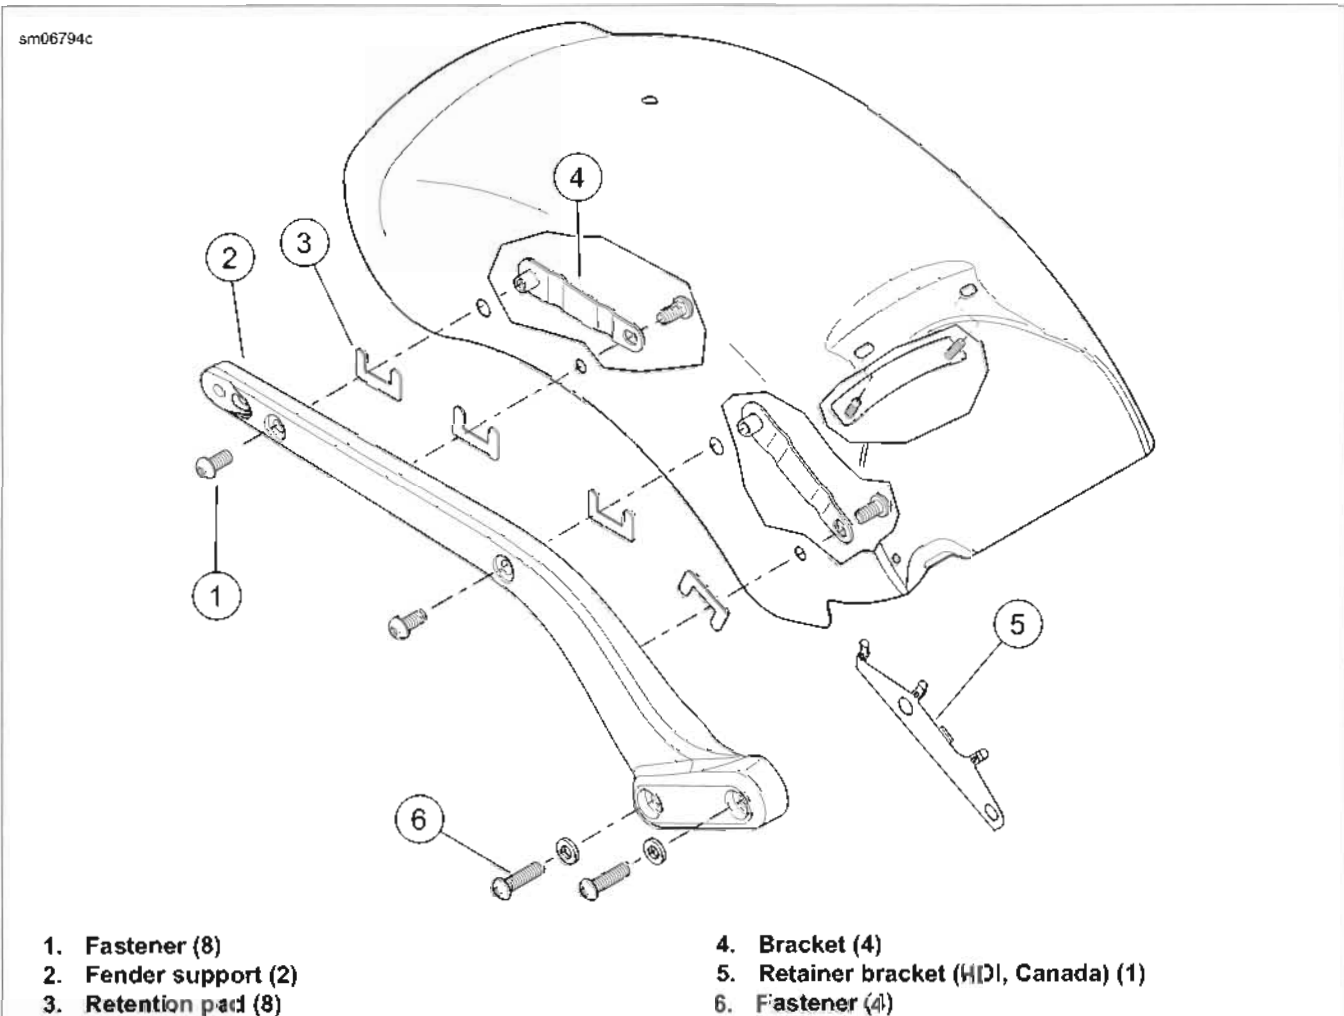

Figure 2-118. Rear Fender
4. See Figure 2-118. Remove fasteners (6). Lift fender from frame.
- b. Remove fasteners (1), fender supports (2) and brackets (4).
1. See Figure 2-118. If fender was replaced, perform the following steps.